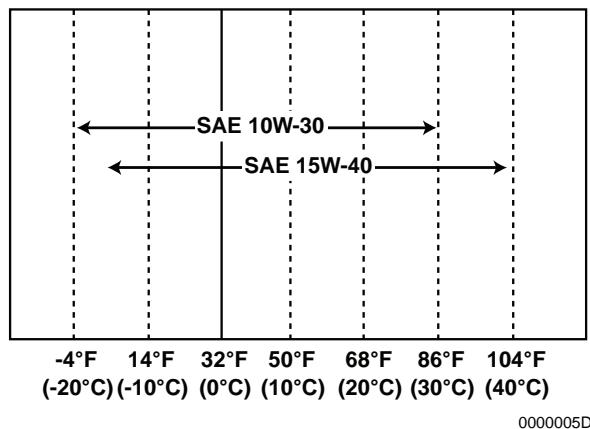

Figure 3-21
- Select the oil viscosity based on the ambient temperature where the engine is being operated. See the SAE Service Grade Viscosity Chart (**Figure 3-21**).
Select the appropriate engine oil viscosity based on the ambient temperature shown in the SAE Service Grade Viscosity Chart (**Figure 3-21**).